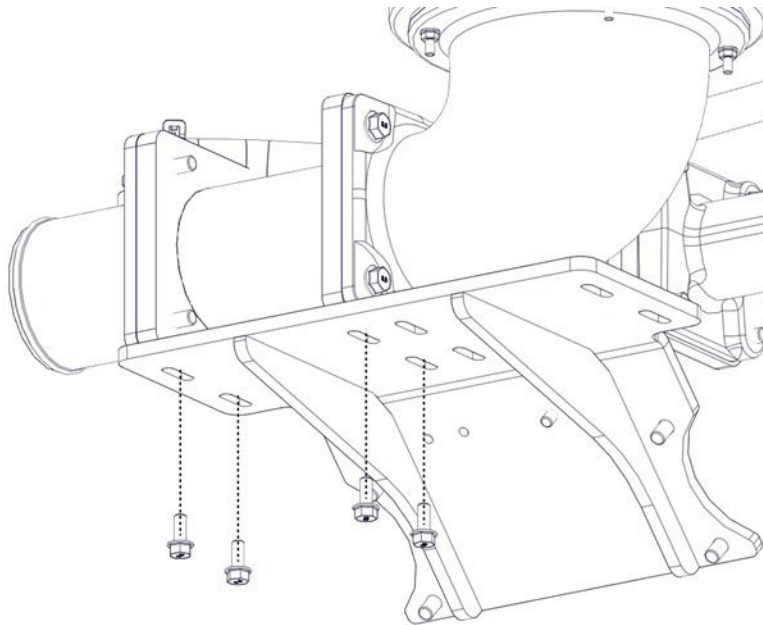

Figure 28.
2. Insert and torque the four bolts (Figure 28) to 22 ft/lbs.